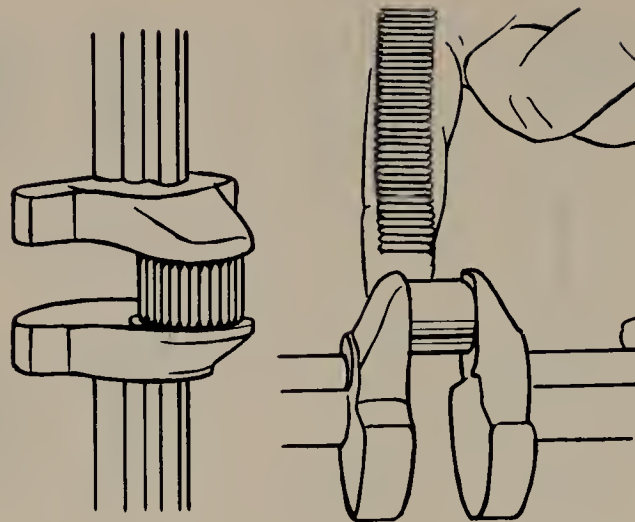

FIGURE 16.35 Crankshaft check points. (Briggs and Stratton Corporation.)
16.6 Crankshaft Service. Inspect the crankshaft crankpin and main-bearing journals for signs of roughness. Figure 16.35 shows various checks to be made on a crankshaft. The crankpin and journals should be checked with a micrometer, as shown in Fig. 16.36. Checks should be made all the way around each journal and the crankpin, and also from one end to the other. If a journal or the crankpin is found to be out of round more than 0.001 in., or if it is tapered, the crankshaft should be discarded. It is possible to grind the journals and crankpin to smaller diameters and use undersized bearings, but this is a delicate operation that requires special equipment.